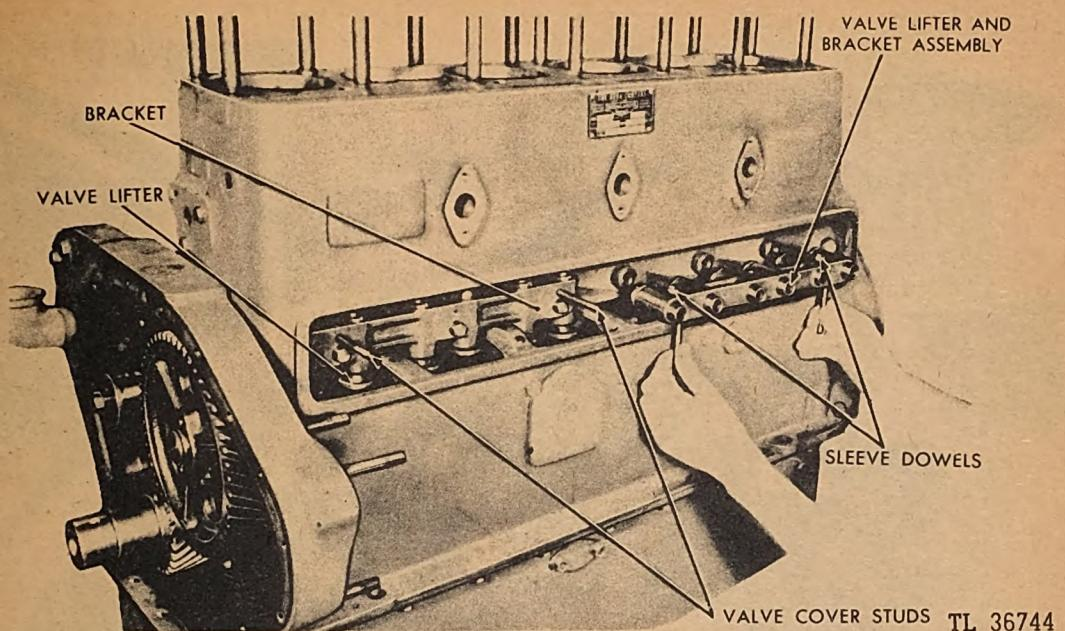

Fig. 92. Removing Valve Lifter and Bracket Assembly
i. *Removing Valve Lifter and Bracket Assemblies.* Remove the valve cover. Note that the valve cover nut closest to the gear housing is considerably longer than the other three nuts. Unscrew the valve lifter bracket bolts. Remove the brackets. (See Figure 92.) The capscrews holding the lifter brackets to the crankcase are of a specified length, 2 inches, and should be kept with the brackets to avoid loss or mixing with other length bolts. Longer capscrews will bend or break in the cylinder sleeves.